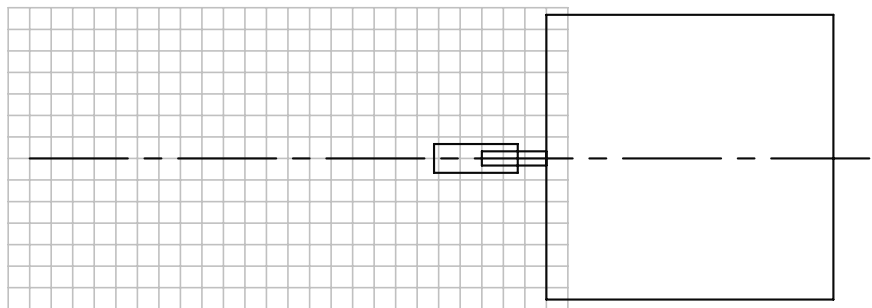

FIG. 5
Step 6. Draw the lines in **Fig. 5**. Use the grid to determine the location of the lines.